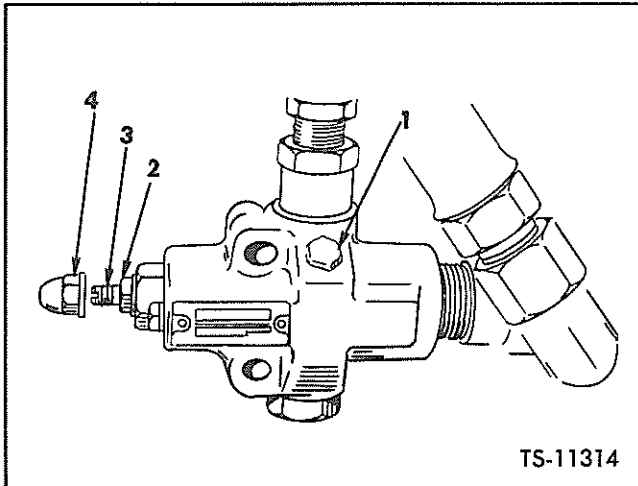

Fig. 29. Steering Pressure Relief Valve
1. Use hydraulic pressure gauge of at least 3000 psi capacity. With engine shut down, remove pipe plug in steering relief valve, and install gauge as shown in Figure 29, Item 1.
If the above items are in satisfactory operating condition it will be necessary to adjust the steering pressure at the steering control valve. See Figure 29.